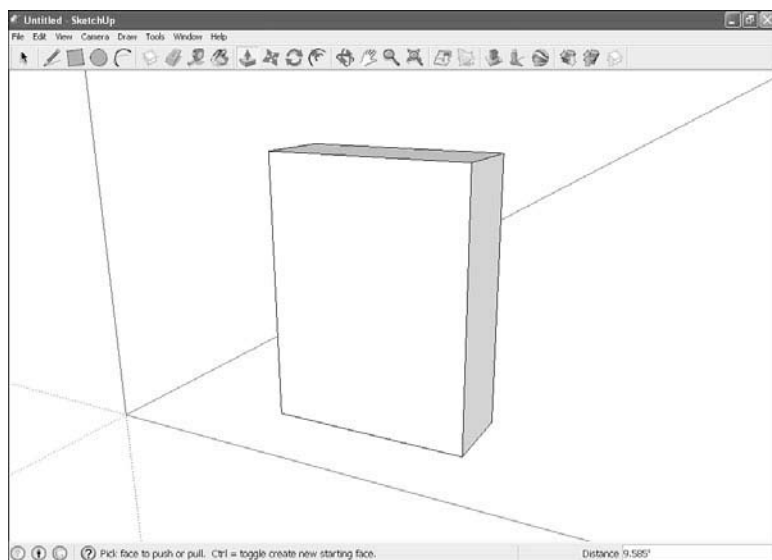

FIGURE 5.9 A 3D wall.
Suppose you’ve just drawn a rectangle that represents a wall. For example, see the wall in Figure 5.9.
2. Draw the 3D wall, such as the one you see in Figure 5.9.